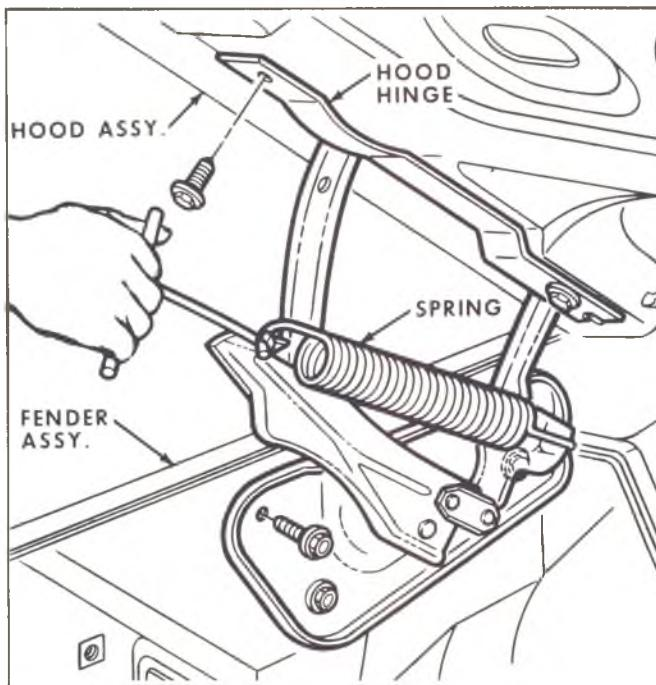

Fig. 2—Hood Hinge and Spring—CK Series
2. As shown in Figure 2, engage hooked end of tool to spring, then carefully pull forward to engage or disengage spring from hinge assembly.
Hood Hinge (Fig. 2)
Alignment (Fig. 2)